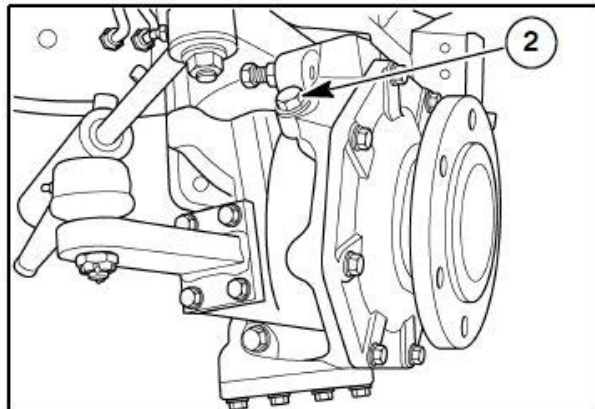

Figure 3-52
4. To check the final reduction gear case oil level, remove the filler plug (2) in Figure 3-52. The oil is at the correct level when it is at the bottom of the fill port opening.